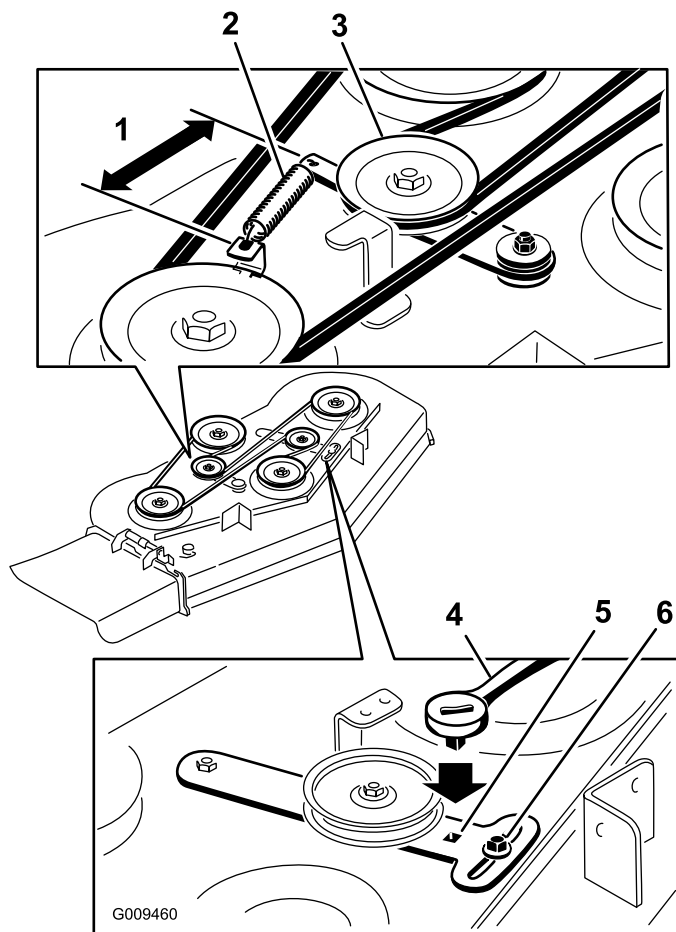

Figure 61
5. Remove the worn mower belt (Figure 61).
6. Install the new mower belt around the deck pulleys and clutch pulley (Figure 61).
7. Using a ratchet in the idler arm, tighten the idler pulley until the spring is stretched 5-3/4 inches (14.6 cm) from hook to hook (Figure 61).